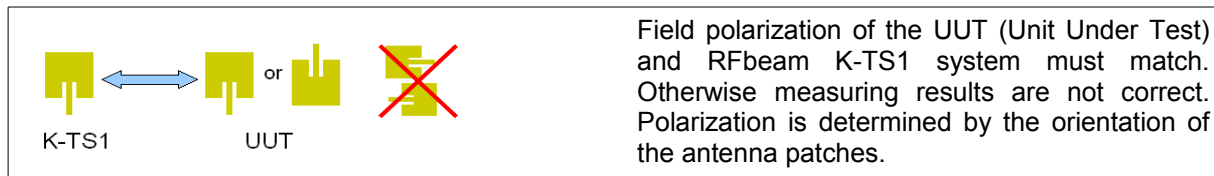

Fig. 1: Correct field polarization
3. Adjust beam polarization. Orientation of antenna patches must match (see Fig. 1)
Pay attention to place the UUT in the correct polarization direction. Check this by rotating the UUT by 90° into the position, where K-TS1 shows maximum power or refer to Fig. 1.